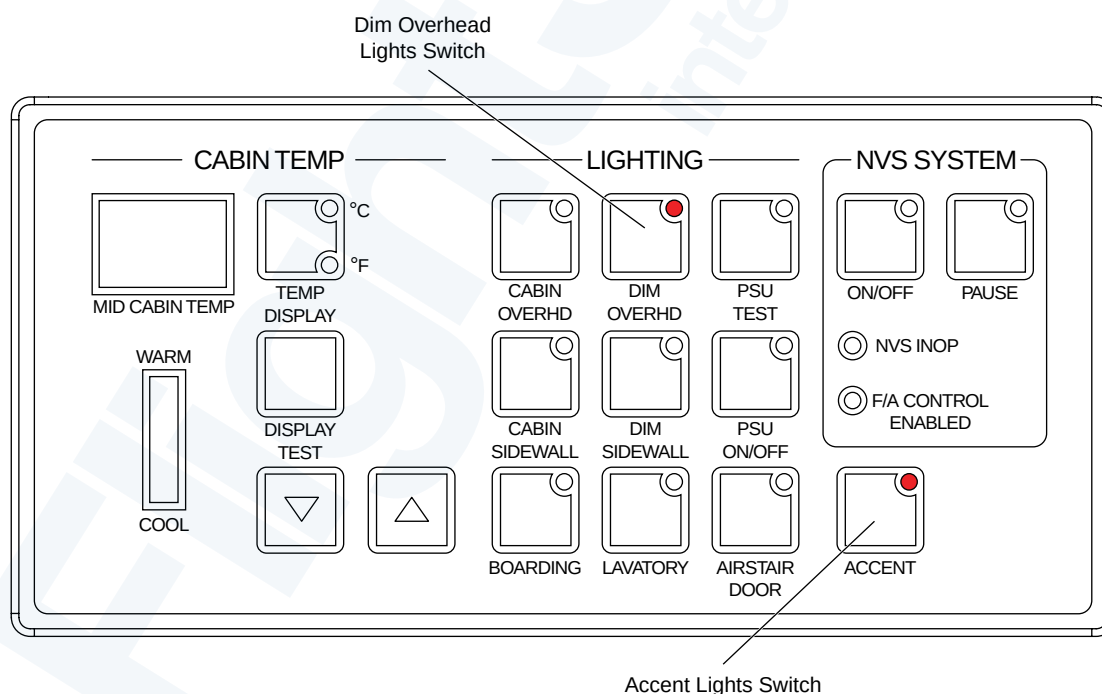

Figure 33-28. Accent Lights Switches
- Figure 33-28. Accent Lights Switches.